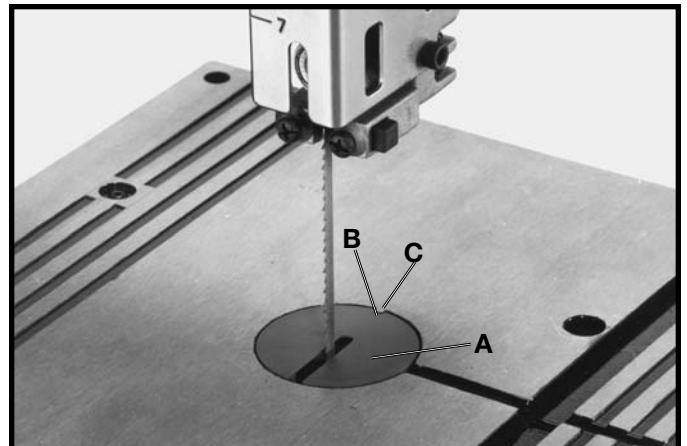

Fig. 9
1. Place table insert (A) Fig. 9, in opening of table. **NOTE:** A notch (B) is provided on insert that engages with dimple (C) in table opening.